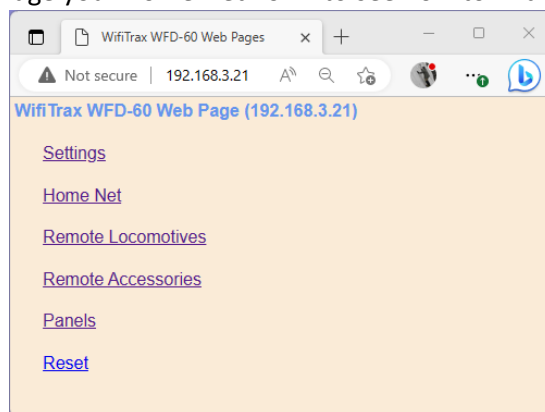

Figure 31 The WFD-60 Web Setup Main Menu (Note: Panels is only present in version 2.2.0 and above.)
- (1) Tap the “three dots” icon at the top right of the screen and select Web in the menu. You should now see the Web Setup Main Menu as in Figure 31. You can click or tap on any of the headings in the menu to access the setup for that feature. The section “Setup Advanced Features using a Web Browser” provides information about all of the menu options.
- (2) You now should see the WiThrottle Address page. At the bottom there should be four tabs Throttle, Address (highlighted in blue), WebServer and Settings. Tap on the WebServer tab and you should now see the Web Setup Main Menu as in Figure 31. You can click or tap on any of the headings in the menu to access the setup for that feature. The section “Setup Advanced Features using a Web Browser” provides information about all of the menu options.
- (4) You should now see the Web Setup Main Menu as in Figure 31. You can click or tap on any of the headings in the menu to access the setup for that feature.
To modify General Settings, tap the “Settings” heading in Figure 31.
To change to Home Net mode, tap the Home Net heading in Figure 31. Optionally download the FindModules app for later use (see section “FindModules App”).